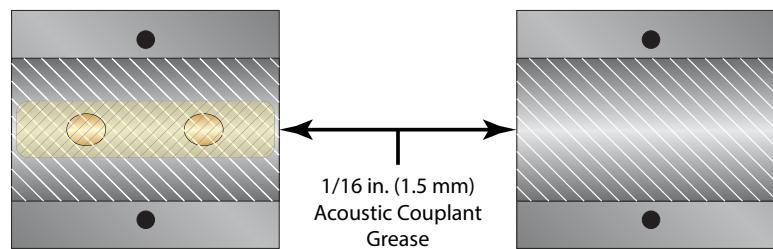

Figure 14: Application of acoustic couplant — DTTS/DTTC transducers
1. Apply a thin coating of acoustic coupling grease to both halves of the transducer housing where the housing will contact the pipe. See *Figure 14*.